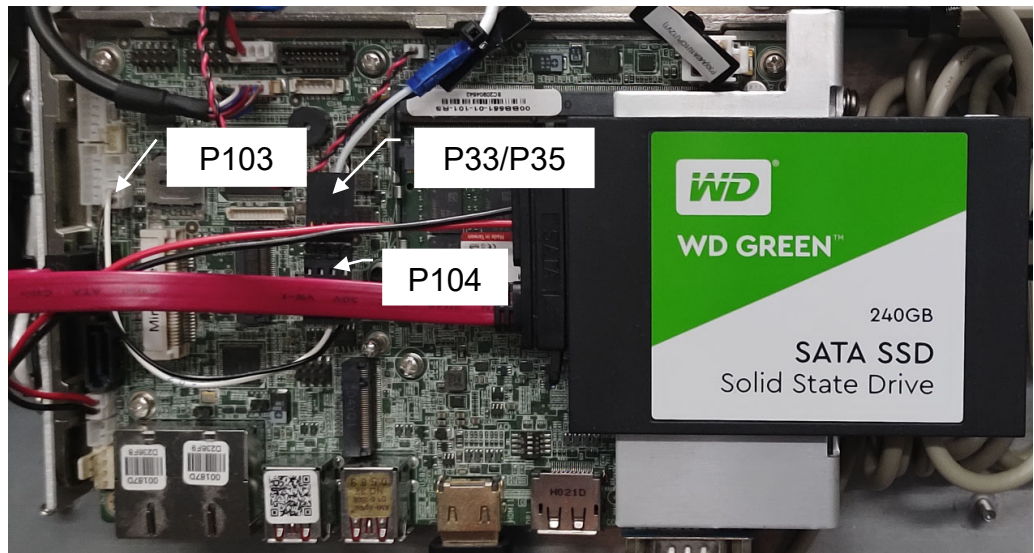

Figure 11: RST_BTN1 Connection
- (o) If Field Modification FM13016 or FM13016A was previously applied to the transmitter, the UB97 Reset Adapter Assy PWB (207-5760) can be disconnected from P33 or P35, then P33 or P35 can be connected directly to A1U1RST_BTN1. Otherwise, connect P104 to P33 (NX15/25/50 only) or P35 (for NX100) and P103 to A1U1RST_BTN1 on the SBC. See Figure 11.